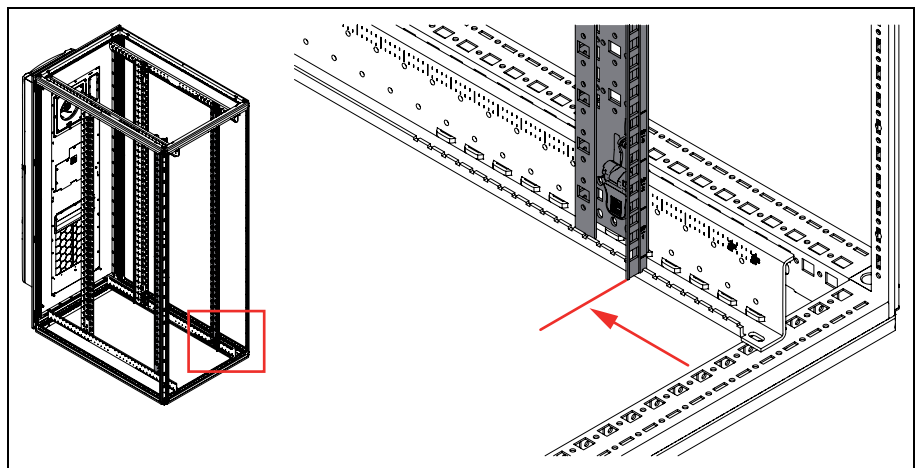

Fig. 2: Adjust the front 482.6 mm (19") mounting angle
- Distance from front door to front 482.6 mm (19") mounting angle: 150 mm (fig. 2).